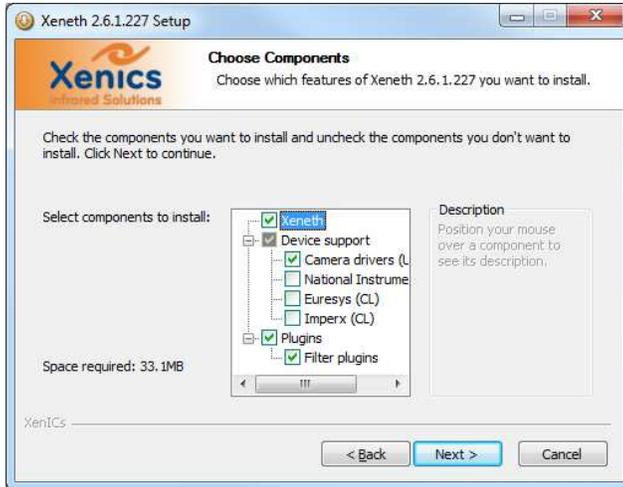

Figure 3-4 Components selection page
3. Install Xeneth (see chap. 3.2) and mark the frame grabber checkbox (Figure 3-4)!
The license page, contains useful information per release on the top half (under read me first), the copyright notice, and copyright notices about the software components used. Proceed by checking the 'I accept the terms in the License Agreement' checkbox. When clicking 'Next' the *Language* → *Welcome* → *License* → *Components* page is shown (see Figure 3-4).
As shown in Figure 3-4, the ‘Device support’ category may be necessary for acquisition over third party drivers or cards, such as e.g. frame grabbers.
Select this option (see Figure 3-4) to install the National Instruments frame grabber plug-in for use in combination with our Camera Link™ enabled cameras.
Select this option (see Figure 3-4) to install the Euresys frame grabber plug-in to use the GRABLINK™ series acquisition boards in combination with our Camera Link™ enabled cameras.
Select this option (see Figure 3-4) to install the Imperx frame grabber plug-in to use the FrameLink series acquisition boards in combination with our Camera Link™ enabled cameras.